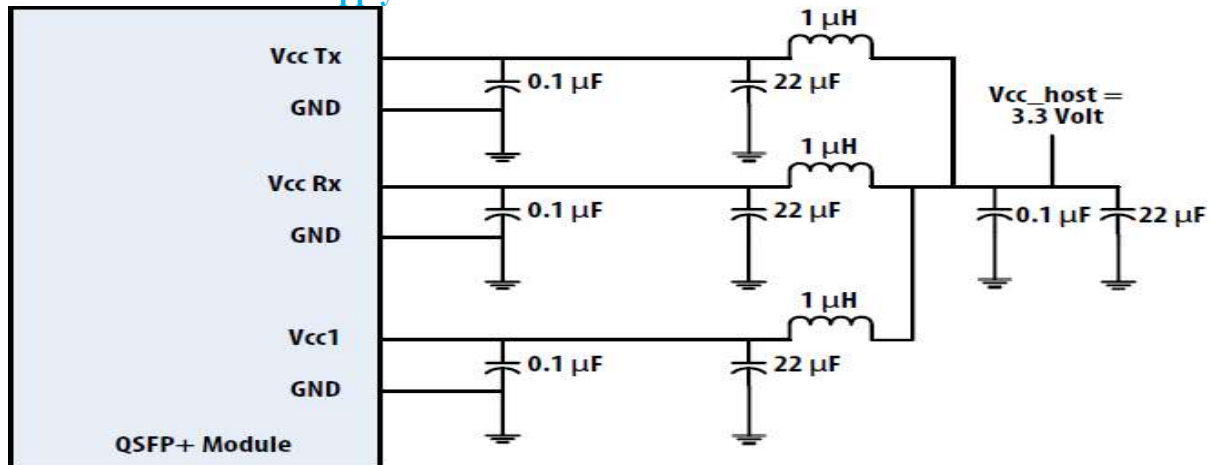

Figure 3. Recommended Power Supply Filter
2. VccRx, VccI and VccTx are the receiver and transmitter power suppliers and shall be applied concurrently. Recommended host board power supply filtering is shown in Figure 3 below. Vcc Rx, VccI and VccTx may be internally connected within the QSFP28 transceiver module in any combination. The connector pins are each rated for a maximum current of 1000mA.